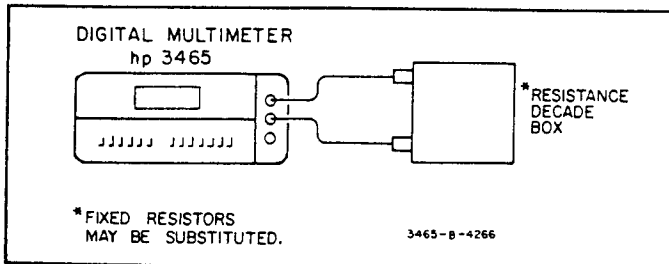

Figure 5-2. Ohms Accuracy Test.
a. Connect the equipment as shown in Figure 5-2.